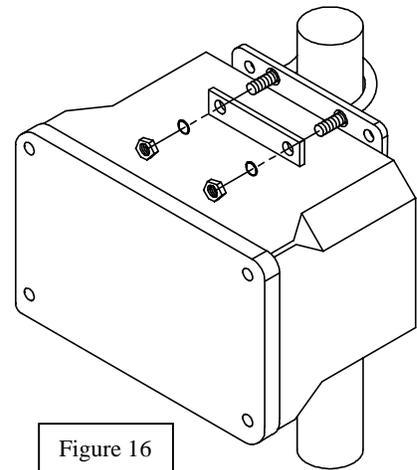

Figure 16
2. Fasten the top and bottom of the 6508, with installed brackets, to the rail with the u-bolts, plates, lock-washers, and nuts as shown in Figure 16.